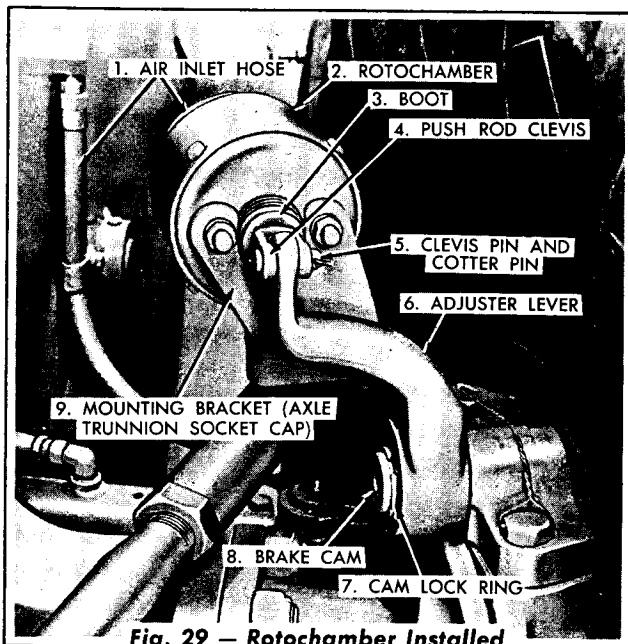

Fig. 29 — Rotochamber Installed
1. Thoroughly clean the rotochamber and the surrounding area (Fig. 29). Disconnect the air hose from the rotochamber. Cover the end of the hose.
1. Remove the brake cam lock ring that secures the adjustor lever to the camshaft (Fig. 29).